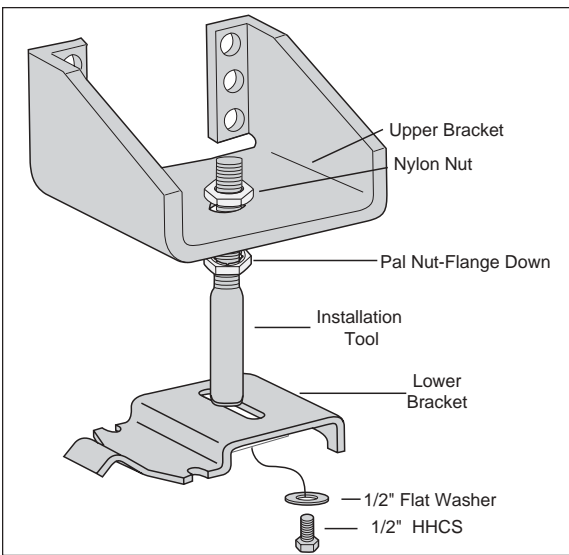

Figure 3
2. Place the upper bracket "legs up" onto the threaded end of the tool resting on the bottom Pal nut. Then thread a nylon nut onto the tool to hold the bracket in place (Figure 3).
3. Use the 1/2" x 7/8" hex head bolt and flat washer to attach the lower bracket to the bottom of the installation tool. Leave loose enough to adjust in and out (Figure 3).
Stability translates into safety and should be the priority, meaning the driver may need to sacrifice a perfectly level and comfortable ride. Stability issues include roll control, bounce, dive during braking and sponginess (fig. 3). Tuning out these problems usually requires an increase in pressure.